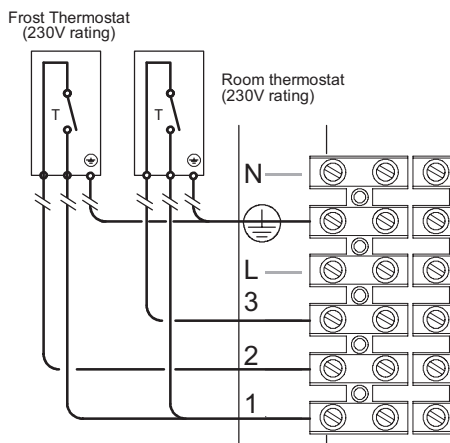
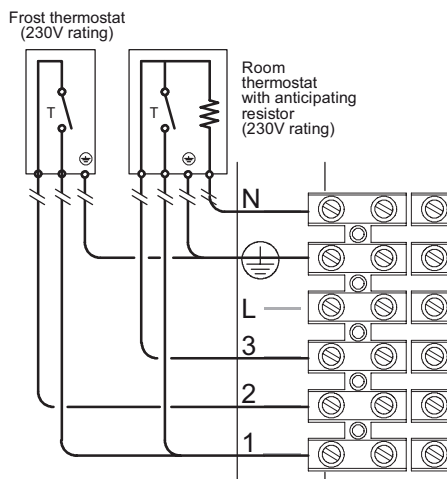
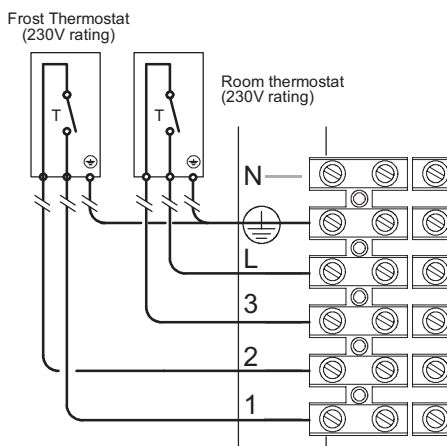

Fig. 6.25
Fig. 6.26
Fig. 6.27
- Connect the frost thermostat between terminals 1 and 2 as shown in Fig. 6.25, Fig. 6.26 or Fig. 6.27.